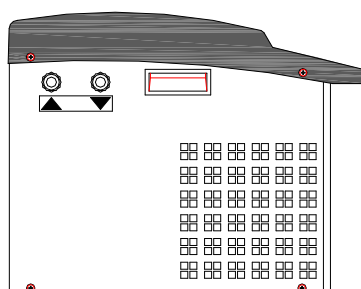

Fig. 1
- For connecting the circuit, make sure that the entry of water corresponds to fig. 1: